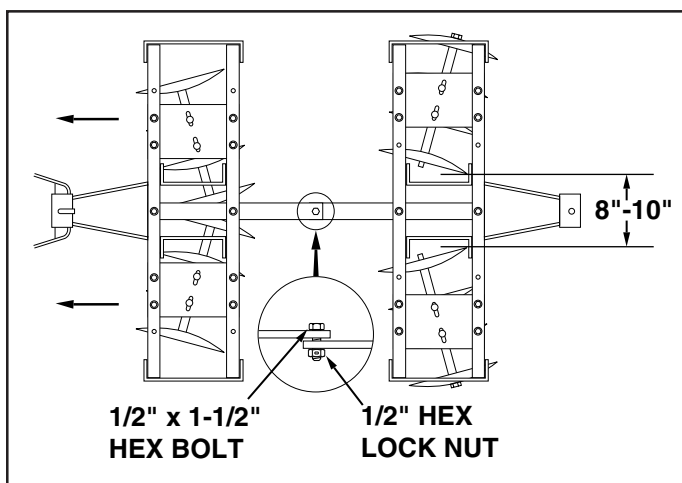

FIGURE 11
2. Attach the rear cultivator to the front cultivator by fastening the hitch bars together using a 1/2" x 1-1/2" hex bolt and a 1/2" hex lock nut. Do not completely tighten the bolt, allowing a slight amount of play between the hitch bars. See figure 11.
4. To use two cultivators in tandem, the disk assemblies should be positioned as shown in figure 11, with the inside disks almost touching on the front cultivator and 8" to 10" apart on the rear cultivator. With this arrangement the front cultivator will throw the dirt to the outside and the rear cultivator will throw the dirt back to the inside.